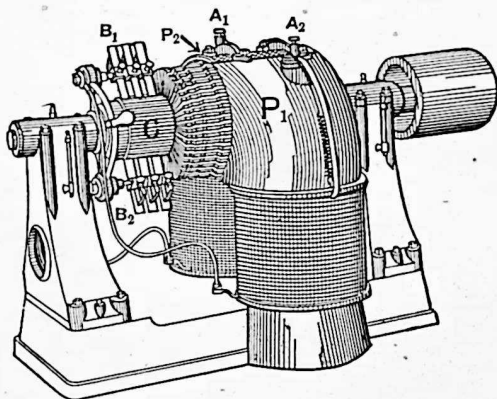
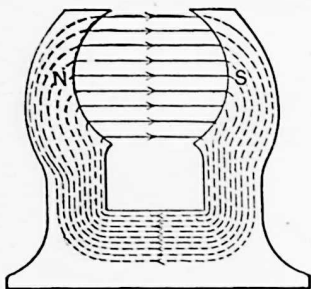
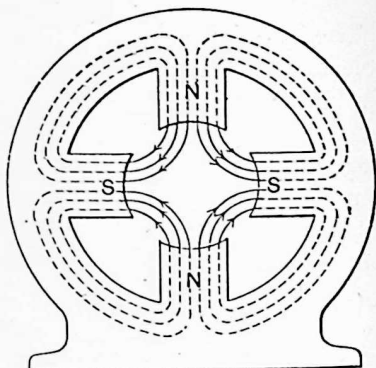
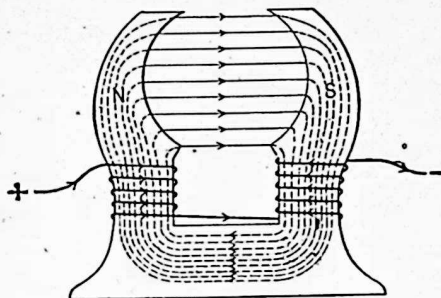

FIG. 100. Simple old-type two-pole generator.
FIG. 106. Diagram of the magnetic lines in a two-pole generator.
FIG. 107. Magnetic lines in a four-pole generator.
FIG. 112. The current in the coils produces the magnetic field.
**52. Voltage Generated in Armature Wires.** Fig. 100 represents the simplest form of two-pole direct-current generator or motor. As a generator, the power is delivered by
54. **Magnetic Field of a Motor.** The magnetic field of the two-pole motor in Fig. 100 is merely the field of a bar magnet bent into a horse shoe as in Fig. 106. Note that here, too, the lines come out of the north pole and enter the south pole, go through the yoke and back again to the north pole. The armature revolves in the field between the north and south poles, and the wires on it cut the magnetic lines of the field and produce a voltage across the commutator, where it is transmitted to the brushes. Fig. 107 shows the field of a four-pole motor. Note that the lines come out of a north pole and go into a south pole, and that north poles and south poles alternate around the frame.
It will be noted that around the pole pieces  $P_1$  and  $P_2$  of Fig. 100, there are wound coils of wire. These coils supply the magnetizing force to the pole pieces. For when an electric current is sent through these coils a magnetic field is created, its direction depending upon the
In order to produce a field as in Fig. 106, which is the field for the machine of Fig. 100, we merely have to wind coils around the pole pieces and send a current through the coils in the proper direction, as in Fig. 112.